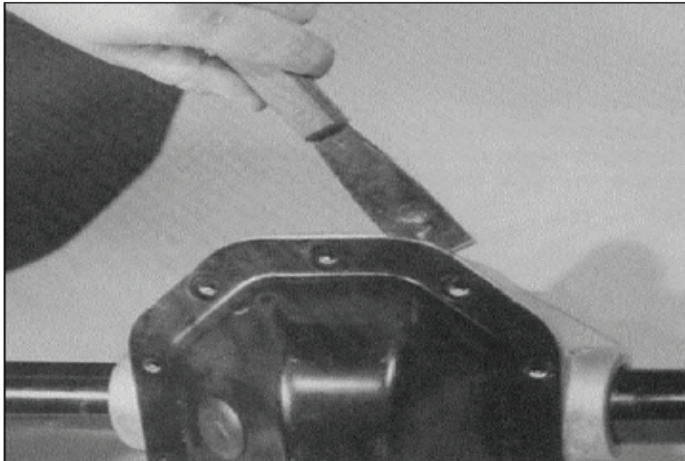

Figure 7-11. Removing Cover Plate
7. Remove ten cover screws (20).
8. Position the axle housing (1) over a drain pan. Using a putty knife, separate the cover plate from the housing (Figure 7-11). Use care to not damage the housing sealing surfaces or to deform the cover plate.